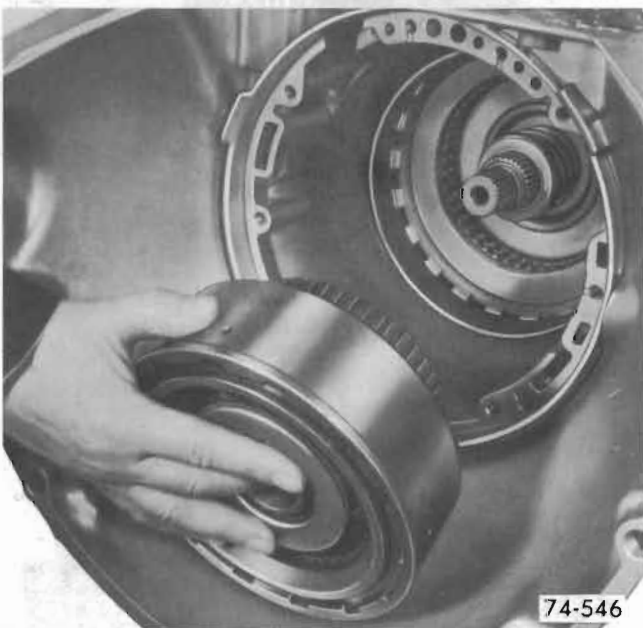

Figure 76-88
7. Remove direct clutch assembly. See Figure 76-88.